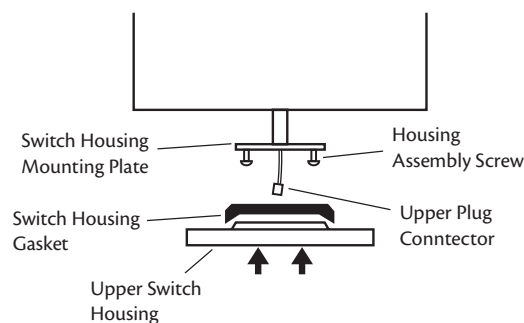

Figure 16 - Attaching the upper switch housing to the mounting plate
2. Feed the upper plug connector through the center opening of the switch housing gasket and the upper switch housing. See Figure 16.